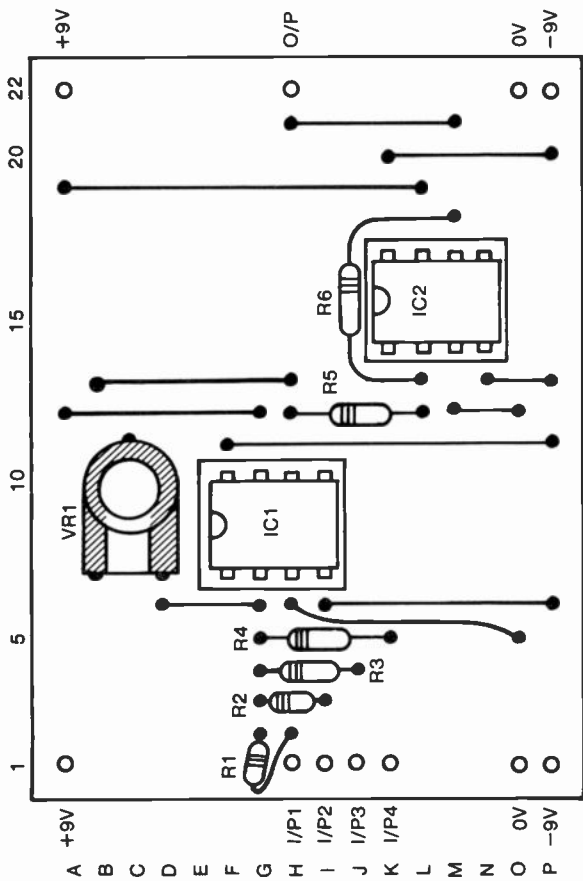

Fig. 85 Stripboard layout of Module 52.
*Stripboard layout:* see Figure 85. Cut strips beneath the board at F8 to I8, H5, I5, H20, K13, K15 to N15. Solder blob joins C7 to D7.